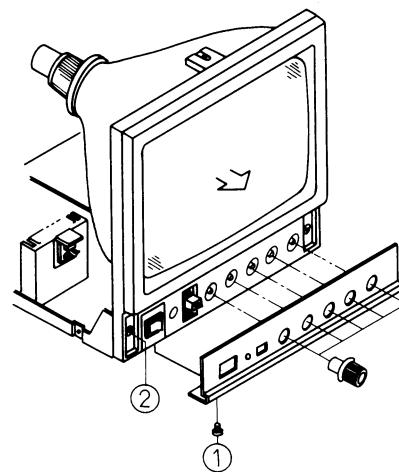

Fig.6
- (4) Remove the deflection yoke fixing screw ①.
- (5) Remove the Deflection yoke in the direction of the arrow.
- (Fig. 6.)
- (1) Remove the Cover.